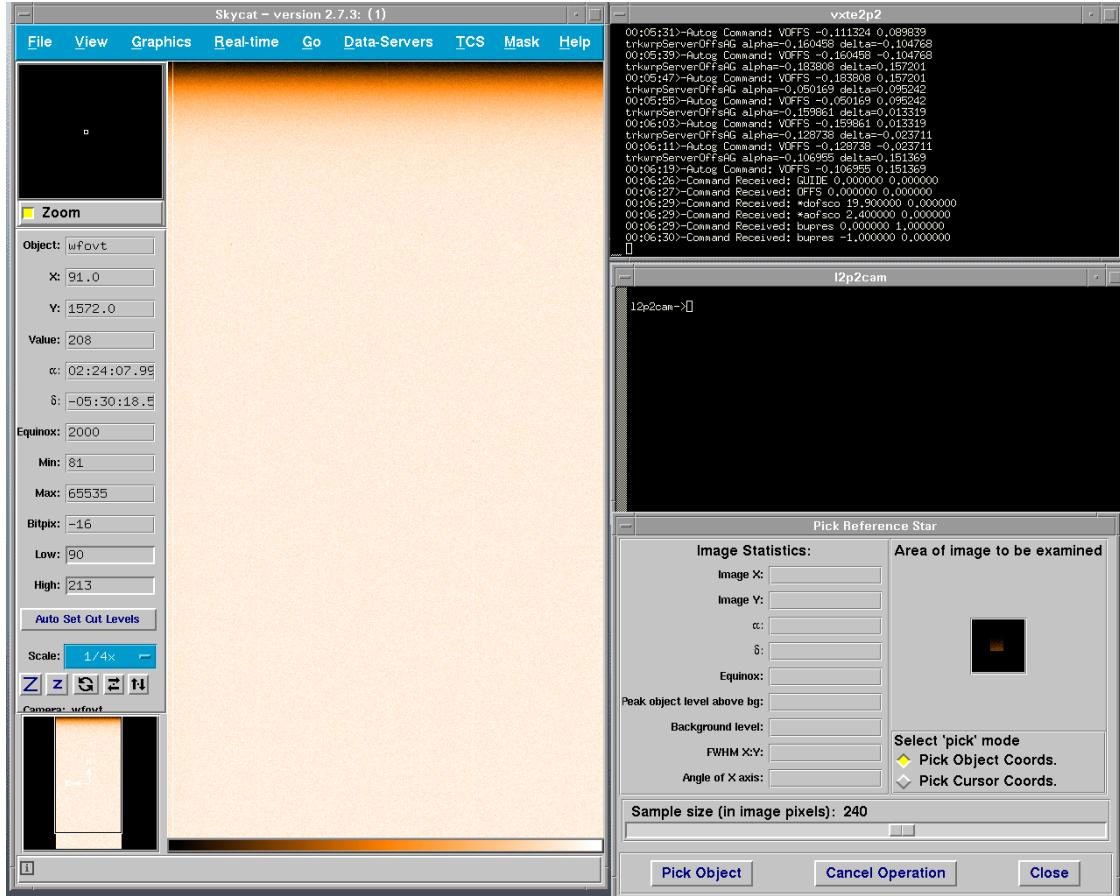

Figure 10.3: The **AG** field is displayed on the **TCS RTD** (left) where the reference star can be picked (using lower right window).
**AG.** The buttons of interest are **Retrieve field** (to probe the **AG** field, displayed in Fig. 10.3), **Box to star** (to start the guiding when a guide star has been picked) and **Off** (to turn off the **AG**). Tuning of the **AG** (e.g. integration time) can be done on the Autoguider area of the **TCS** setup panel (Fig. 10.2).